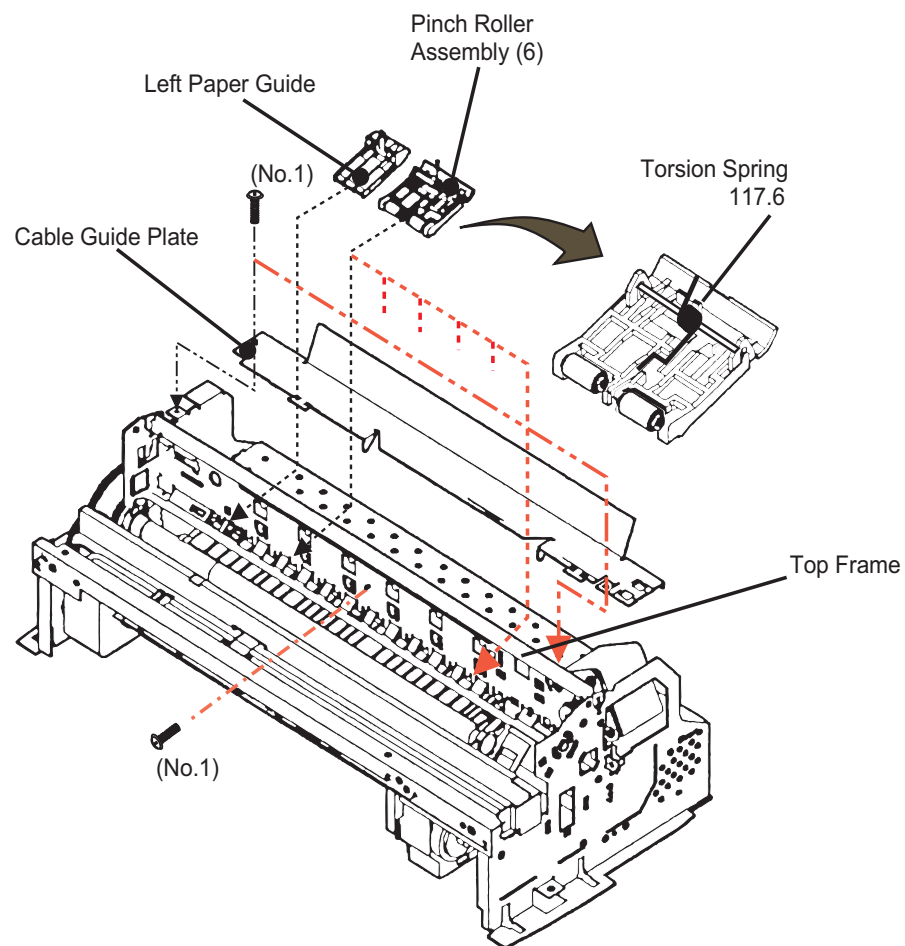

Figure 4-20. Removing the Paper Guide Assembly
3. Remove the 3 screws (No.1) from the PH cable guide plate. (See Figure 4-20.) Slide the plate toward the left side of the printer to unhook it from the frame. Without detaching the cables or kinking them, set the guide plate to the side of the printer mechanism.
3. Remove the 3 screws (No.1) that hold the cable guide plate in place, and remove the cable guide plate. See Figure 4-20.